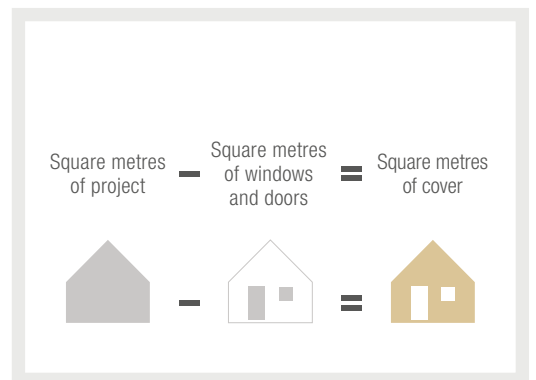

Fig. 05
- Subtract the surface area of any doors, windows and other openings (Fig. 05).